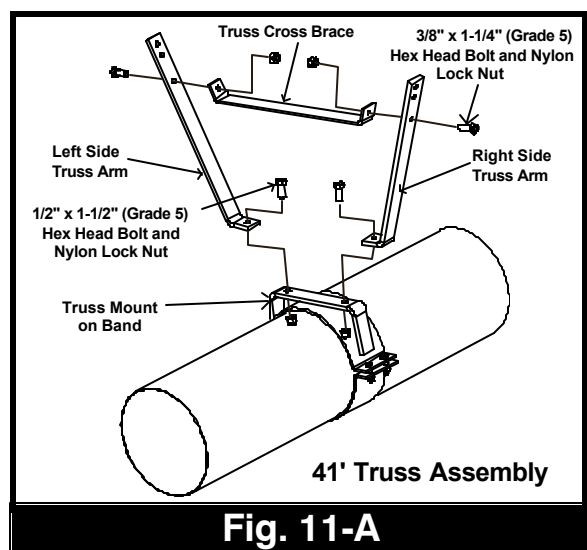

Fig. 11-A
- Position the track under the tube housing close to the position indicated in the drawings on page 16-17 for your size auger. Loosely attach track to tube by bolting the half-bands to the track using six (6) 3/8" x 1-1/2" (grade 5) hex head capscrews and nylon locknuts. Make sure the track can slide freely along the tube for final positioning.
A. 42' Truss Assembly (See Fig. 11-A)
- Fasten the truss crossbrace in between the right and left side truss arms using two (2) 3/8 x 1-1/4" (grade 5) hex head bolts and nylon lock nuts.
B. 52' Truss and 72' Upper Truss Assemblies. (See Fig. 11-B)
1. Attach right and left side truss arms to the left and right side of the truss mounting band using four (4) 1/2" x 1-1/2" (grade 5) hex head bolts and nylon locknuts. **TIGHTEN BOLTS ONLY FINGER TIGHT AT THIS TIME.**
2. Fasten the truss crossbrace to the left and right side truss arms using two (2) 3/8" x 1-1/4" (grade 5) hex head bolts and nylon locknuts.
C. 62' Truss Assembly (See Fig. 11-C)
1. Attach right and left truss arms to the right and left sides of the track using two (2) 5/8" x 1-1/2" hex head bolts (grade 5) with nylon locknut. **TIGHTEN ONLY FINGER TIGHT AT THIS TIME.**
2. Fasten lower and upper truss cross braces in between the right and left side truss arms using four (4) 3/8" x 1-1/4" (grade 5) hex head bolts and nylon locknuts.
D. 72' Lower Truss Assembly for Winch Mount (See Fig. 11-D)
2. Fasten the lower truss crossbrace to the inside of the two 39-1/2" truss arms using two (2) 3/8" x 1-1/2" hex head bolt and nylon locknuts.
3. Attach the upper truss crossbrace to the inside of the two 39-1/2" truss arms and attach the vertical truss tubes to the outside of the 39-1/2" truss arms using the same two (2) 3/8" x 1-1/2" hex head bolt and nylon locknuts.
4. Attach the other end of the vertical truss tubes to the bottom of the 30" long truss arms using two (2) 3/8" x 1-1/4" hex head bolt and nylon locknuts.